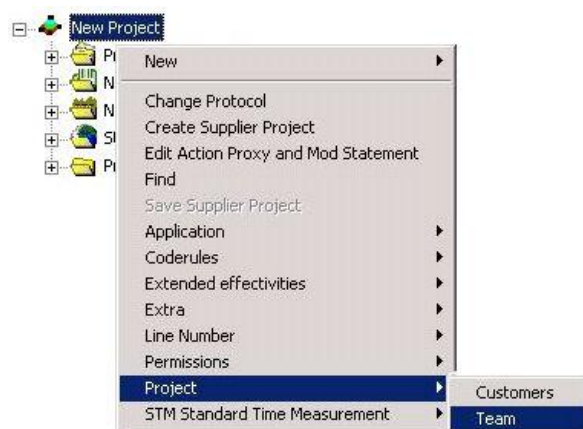

Figure 220: Creating a Project Team
- 1) Open the context menu of a project node and click **Project < Customer**. The **Customer** dialog opens. *Please refer to the Figure 220*.
To make entries, you need to open the **Project Team** dialog. To open the dialog, *Please refer to the Creating Customer Data and Figure 220*. To make an entry in this dialog, you must double-click the corresponding field.